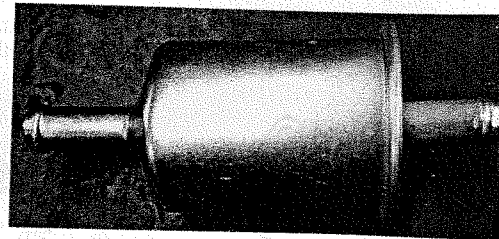

Fig 1-6 Gasoline Filter
A) Fuel Filter I for gasoline engine is in a through or cylindrical type, and it shall be replaced periodically (namely replacement by years). (Refer to Fig 1-6). It is peculiar, with one grade of fuel filtration increased.